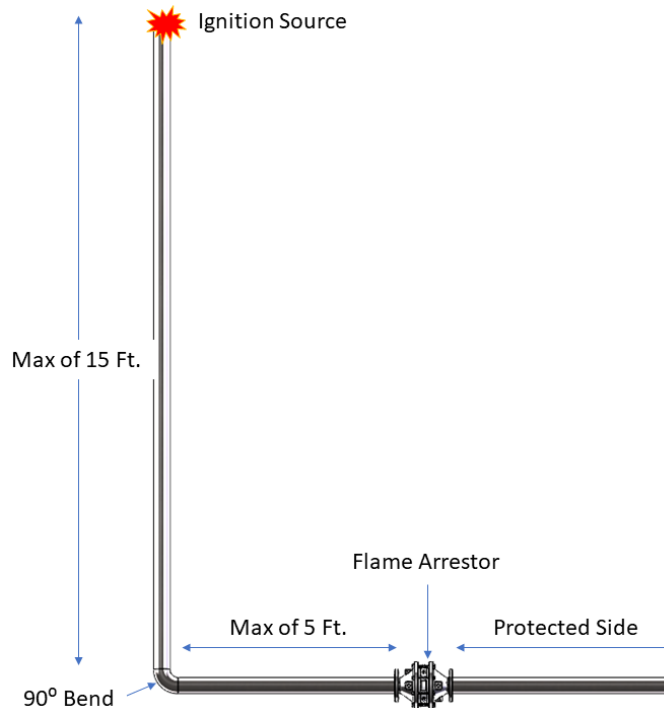

Figure 2: 20 Ft with Bend, Allowable Installation Configuration
****See below Figure 2, 20 feet with bend configuration diagram:**